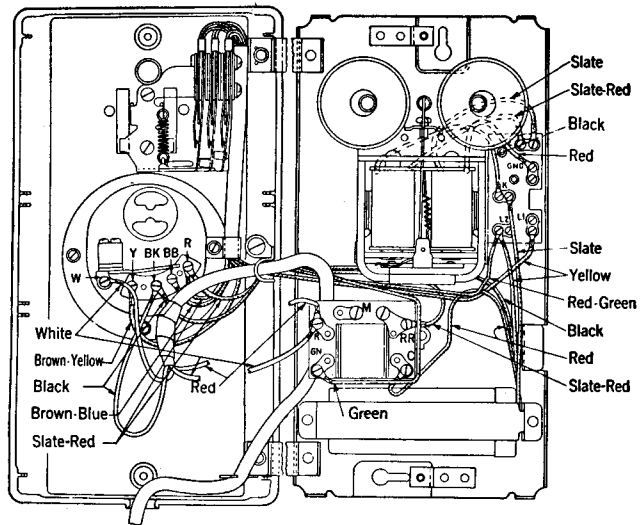

Fig. 4—M3 Telephone Set Mounting
2.04 The **M3 and M5 Telephone Set Mountings** for manual stations are corded, respectively, as shown on Figs. 4 and 5 except that the cording for the 94A Apparatus Blank, which is used in place of the dial, should be as shown in the section of subdivision C32 covering the cording of 354, 356 and 357 type telephone sets.
2.05 The **M3 and M5 Telephone Set Mountings** for dial stations are corded, respectively, as shown on Figs. 4 and 5.
NOTE: On Figs. 4 and 5 for pictorial convenience, the cover of the mountings is shown fully opened so as to lie in the same plane as the base whereas the cover can only be partially opened when the set is fastened directly against a wall as when in service. The hand set cord red and white conductors which connect to terminal R of the induction coil are of insufficient length to reach this terminal with the cover fully opened and, accordingly, a break is shown in these conductors on the figures.